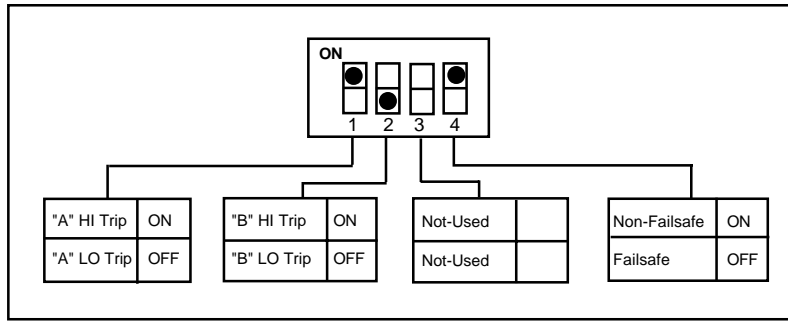

Figure 4: DRG-AR-AC Function Selection Switch-Settings (SW2) Factory Default Settings
For other I/O ranges, refer to Table 1 and Figure 4 to reconfigure switches SW2, SW3 and SW4 for the desired input type, range and function.
3. Set position 1 and 2 of function switch "SW2" to ON for a HI trip setpoint or OFF for a LO trip (see Figure 4).